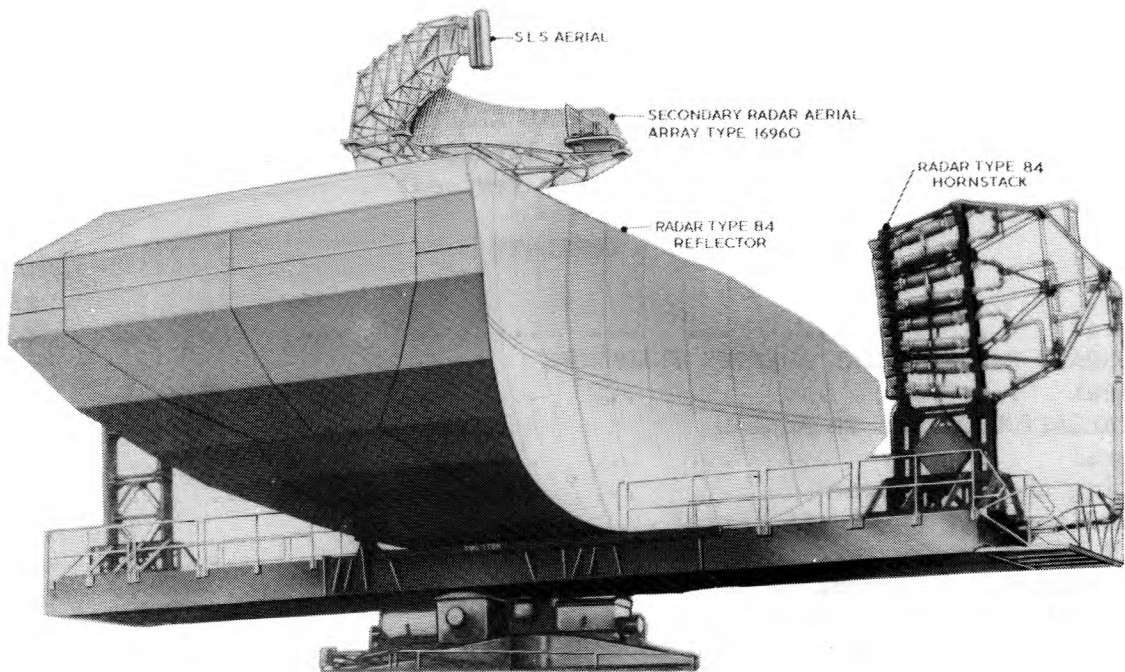

Fig.1 Radar Type 84 aerial with secondary radar aerial mounted on top
1. Figure 1 shows the structure of the aerial for the Radar Type 84 with the secondary radar (SR) aerial mounted on it. When the SR equipment is added to the Radar Type 84 it becomes Radar Type 84 Mk.2.
9. The stacked dipole omni-directional aerial, required for side lobe suppression (SLS) is attached to the end of the SR aerial as can be seen in fig.1. The SLS aerial is fed by a power divider box mounted at the rear of the SR aerial reflector. Pressurised air spaced coaxial feeders of  $\frac{3}{8}$  in,  $1\frac{1}{8}$  in, and  $3\frac{1}{8}$  in diameter, using HN and H2 plugs and sockets, are employed in the feeder run (Sect.2, Chap.3A) between the interrogator, power divider box and the aeriels.